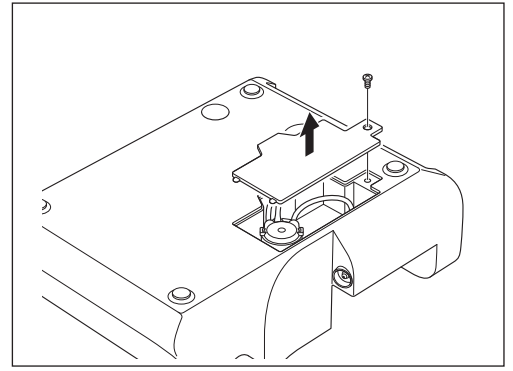

Fig. 49
- 2) Turn over the Control Unit. Use a cross-head screwdriver to remove the screw on the Irrigation Pump Cover and remove the Cover. (Fig. 49).